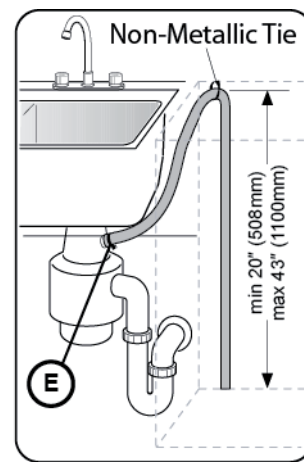

Figure 11
2. Directly to a disposer dishwasher drain connection, as shown in **Figure 11**.